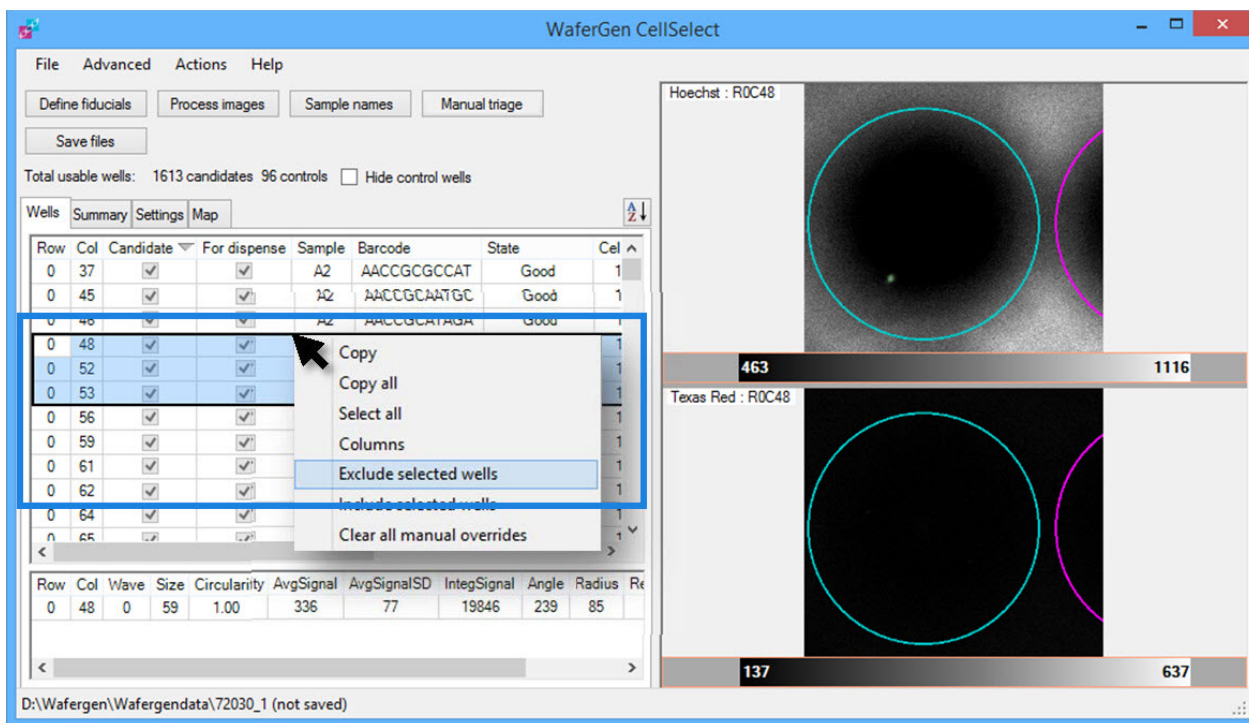

Figure 16. Excluding candidate wells.
4. To manually exclude one or more candidate wells, right-click the highlighted row(s) and select **Exclude selected wells** (see Figure 16, below). To exclude several candidate wells, consider using the **Manual triage** function described in the section below (Section II.H).